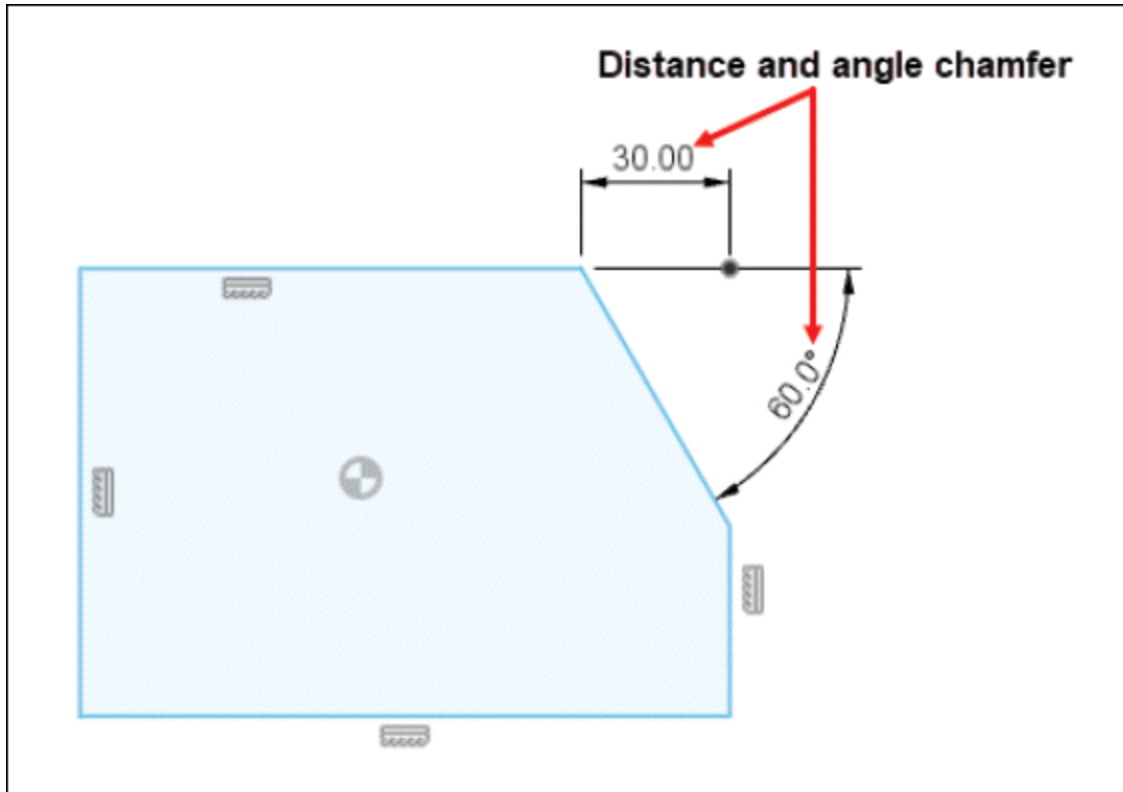

Figure-74. Distance and angle chamfer created
- After specifying the chamfer angle, press **Enter**. The distance and angle chamfer will be created; refer to Figure-74.